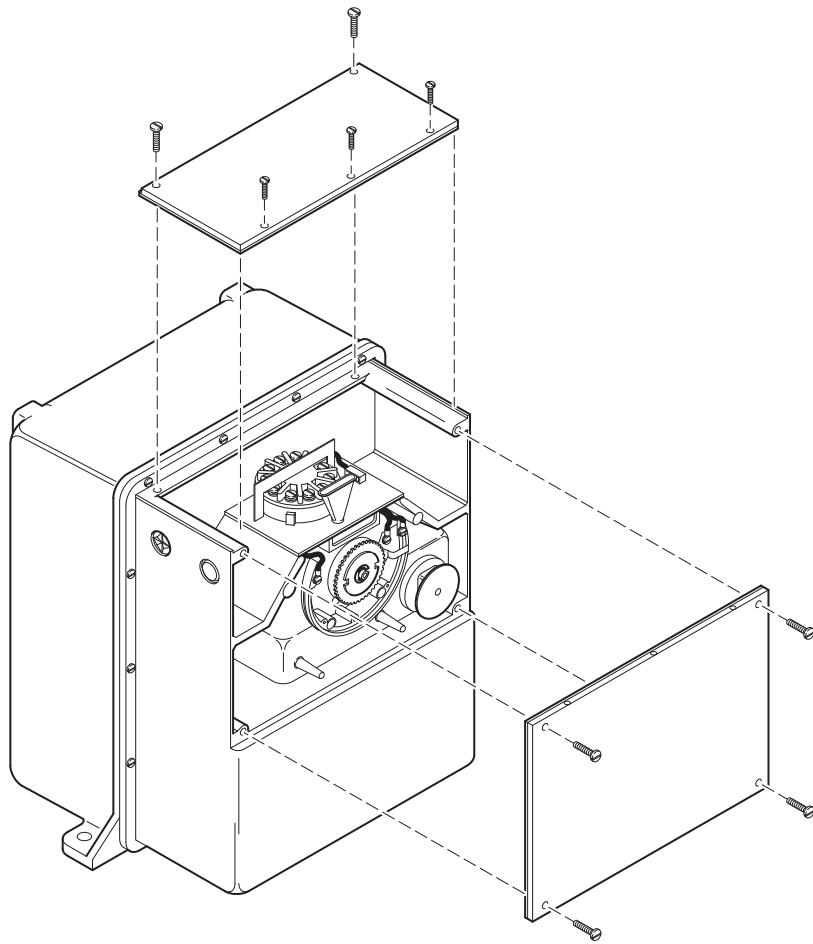

Figure-1 Gasket Cover Kit Used On The MP-9700 Actuator.
2. Replace the top and back covers with the AM-369 Gasket Cover Kit (See Figure-1).